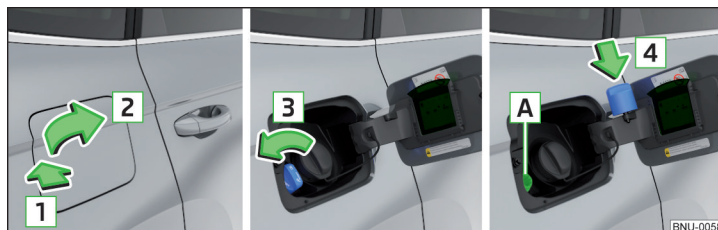

Fig. 304 **Open fuel filler flap / unscrew tank cap / place the tank cap on the fuel filler flap**
- Press the fuel filler flap in the direction of arrow **1** and open it in the direction of arrow **2** » Fig. 304.